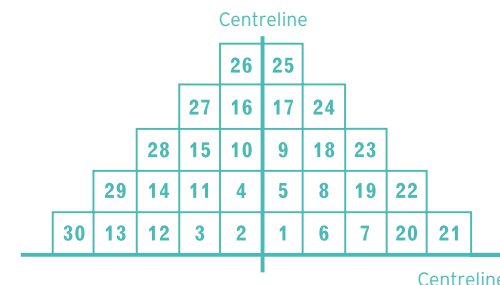

Figure 9 Pyramid layout
- ▶ Lay the first pyramid of tiles from the centreline, using the sequence shown in Fig 9. Ensure a close bond is maintained at all times.
**NOTE** Construction of a pyramid should always start at the centre of the baseline, working in the same sequence as shown in Figure 9.